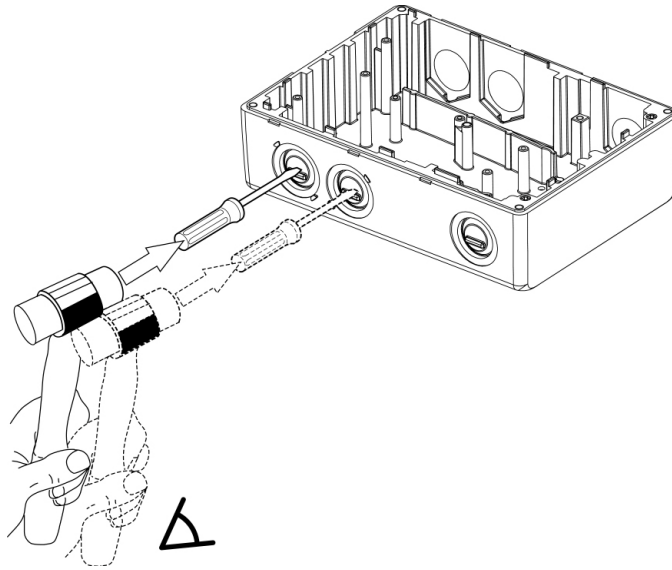

Figure 4-3 Gland Plate or "knockout" Removal
5. Using a hammer and a flat-head screwdriver (as shown in Figure 4-3) strike the gland plate or “knockout”.